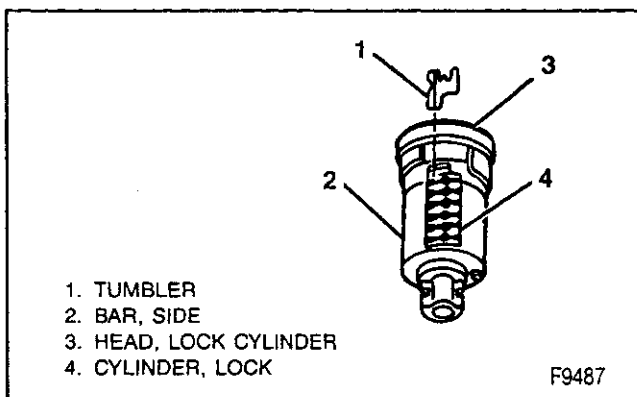

Figure 19—Installing Tumblers
#### Assemble (Figures 19 and 20)
2. Starting with position one (the open end or head of the cylinder), insert tumblers in their proper slots in the order called for by the code (figure 19).